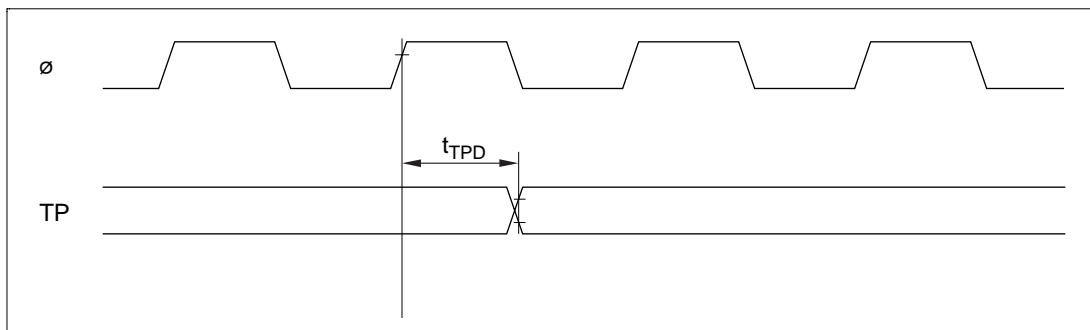

Figure 19.18 Timing Pattern Controller Timing
19.3.7 TPC Timing	Figure 19.18